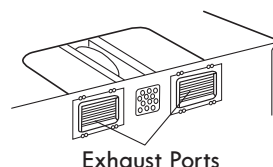

Figure 16
4. Rotate the unit so that the exhaust ports face the rear of the cabinet. See Figure 16.
5. Place blower unit back into cabinet. Check that the exhaust ports face towards the rear of the cabinet. See Figure 16.